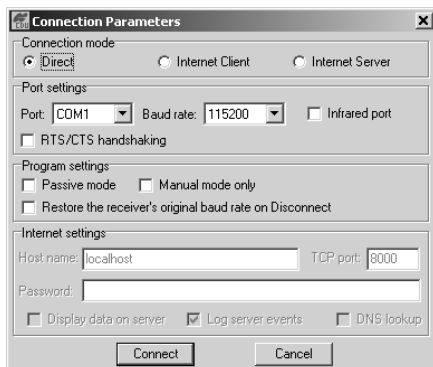

Figure 2-3. Bluetooth and RS232 Connection Parameters
3. On the Connection Parameters dialog box, select the following parameters for Bluetooth or RS232 connections and click **Connect** (Figure 2-3 on page 2-9):